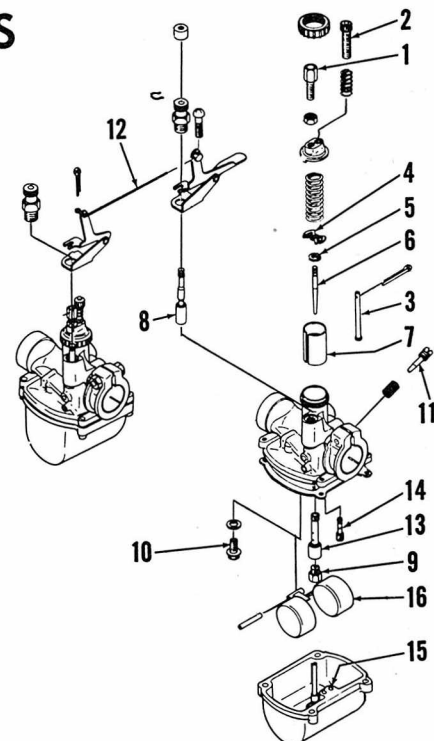
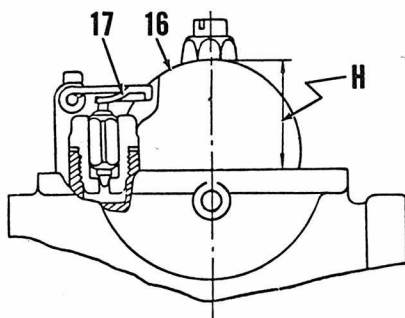

Fig. Y2-1—Exploded view of Mikuni VM carburetor. Starting valves for both carburetors are connected with rod (12).
Fig. Y2-2—Float level (H) is adjusted by bending tang (17).
**CARBURETORS.** Two Mikuni VM carburetors are used. Idle speed should be set to 1200-1500 RPM for YL-1 models; 1100-1200 RPM for HS-1 models. Adjust idle speed by turning adjusters (2—Fig. Y2-1). Make sure
that throttle slides (7) both stop at the same position and exhaust pressure is the same for both cylinders. Idle mixture is changed by turning needles (11). Initial setting 2½ turns open for YL-1 models; 1½ turns open for HS-1 models. Turning the needle counter-clockwise leans the mixture. Carburetors must be synchronized to open exactly the same amount by turning cable guides (1) on top of carburetors. Float level (H—Fig. Y2-2) should be 0.906 inch (23MM) and is adjusted by bending tang (17) on float. Refer to Fig. Y2-1 and the following standard specifications:
Before adjusting the pump control cable, it is important that the carburetor throttle cable guides (1—Fig. Y2-1) are correctly set. To adjust the throttle cable guides, turn idle speed adjusters (2) all the way down, then synchronize the cable guides (1) so that both throttle slides (7) begin to move at exactly the same time when the hand grip is turned. The throttle cables should have approximately  $\frac{1}{8}$ -inch free play at idle position after they are synchronized. Adjust idle speed to 1200-1500 RPM on YL-1 models and 1100-1200 RPM on HS-1 by turning both idle speed adjusters (2). Make sure that both throttle slides contact stops at the same time. Turn the throttle hand grip just enough to take up free play from the throttle cables (without changing idle speed) and check the oil pump setting mark and guide pin as shown in Fig. Y2-5. If the "V" mark (1) is not exactly aligned with the guide pin (2), loosen the lock nut and turn the pump cable adjuster (3) as required to align.